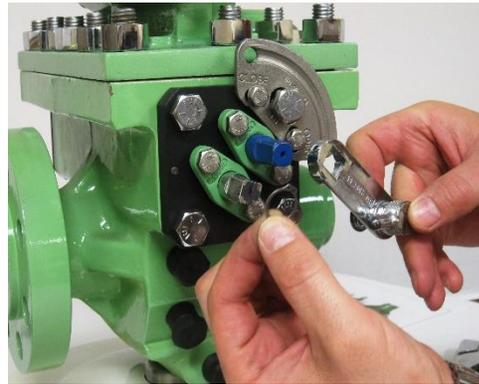

Figure 2
2. Remove spring loaded button by sliding locking arm assembly off eccentric plug shaft. **(Figure 2)**